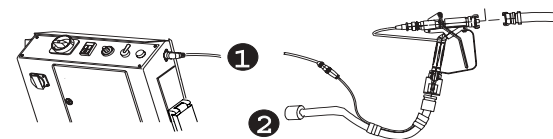

Fig. 8: Connections for adhesive version
- Couple the adhesive gun to the mortar hose (fig. 8, 2)
- Couple the control cable of the adhesive gun to the 4-pole flange socket (fig. 8, 1)